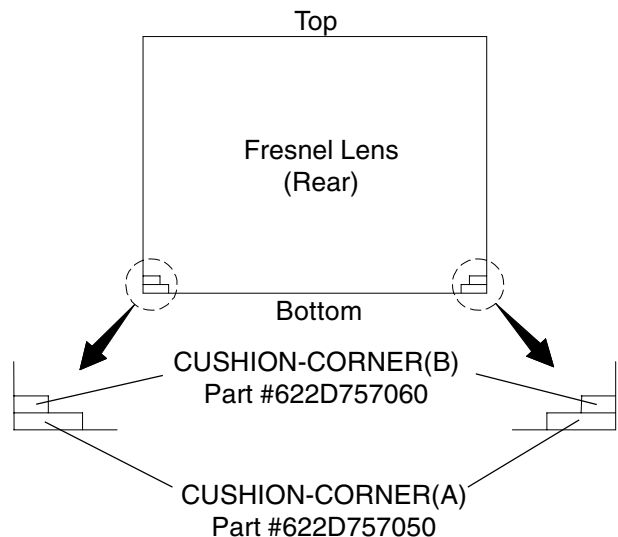

Figure 3-3
3. Install CUSHION-CORNER pads at the bottom corners on the back of the Fresnel Lens, as shown in figure 3-3.